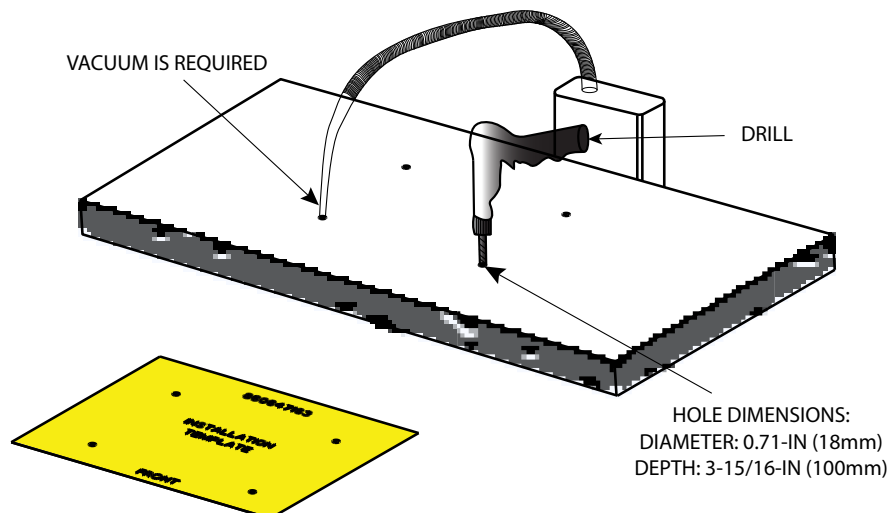

Figure 8. Drilling Mounting Holes
- Set aside the installation template and drill four mounting holes in the concrete at the marks just made, as shown in Figure 8.